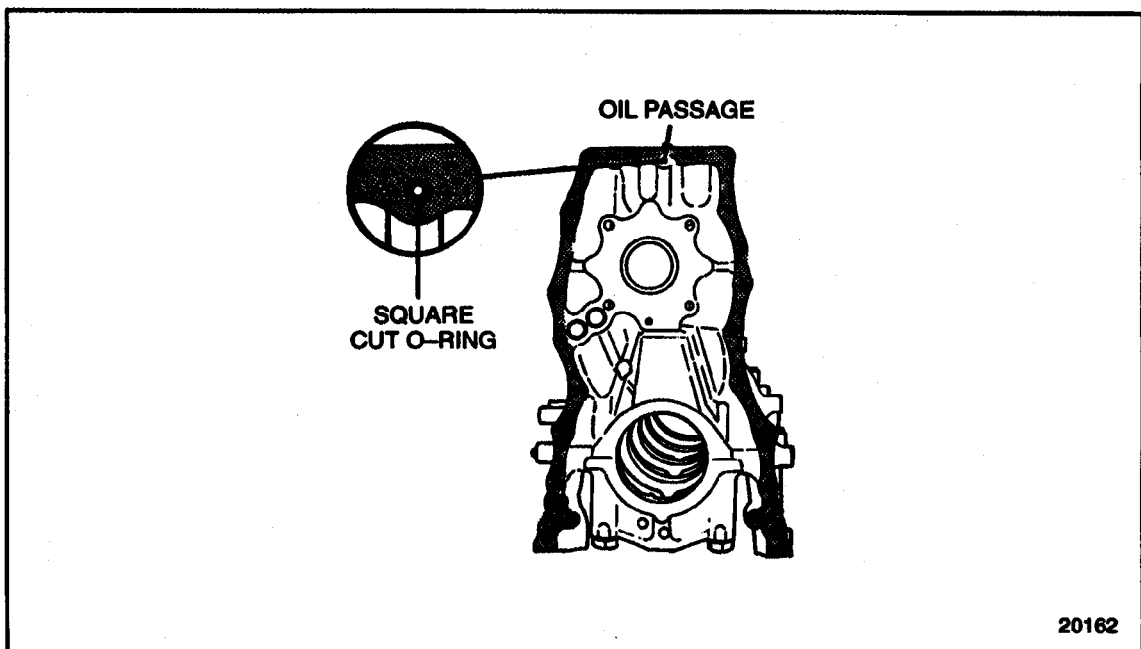

Figure 1-194 Gasket Eliminator Application
1. Apply a thin film of gasket eliminator PT-7276 (Loctite® 518) or equivalent to the cylinder block. See Figure 1-194. Carefully smooth the bead around the block-to-gear case oil passage to avoid contamination.